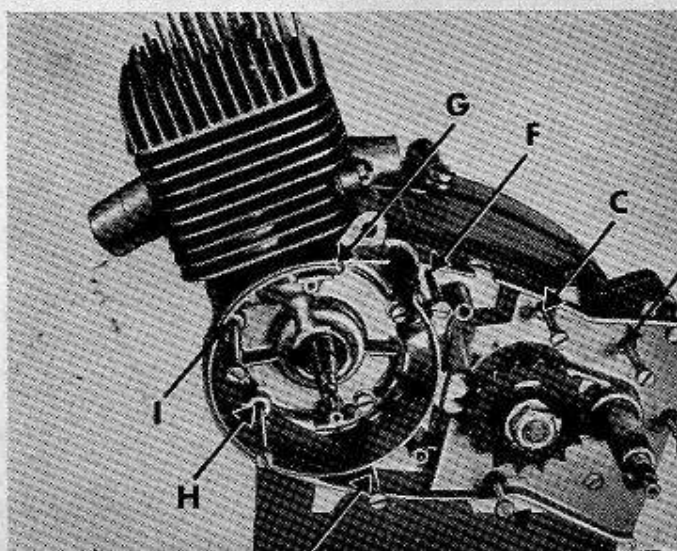

Fig. 87
***) Only fitted to engines of type 281, where it is located between I and G (fig. 87).